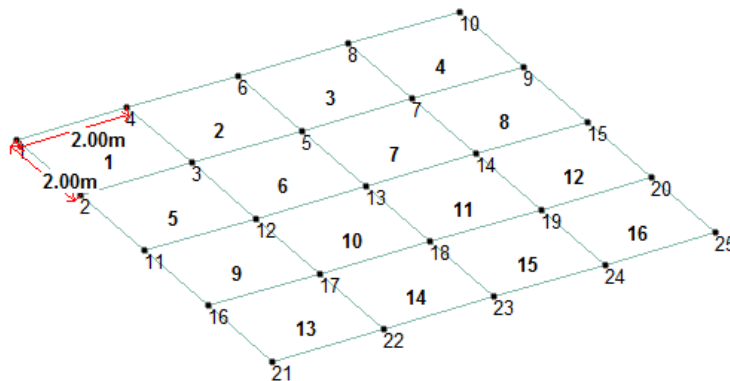

Figure 2-32 The roof slab
In this example, you will create plate elements using the Snap Node/Plate method. Figure 2-32 shows the structure to be created in this example.
Step 11: Repeat the previous steps and create plates 2 to 16, refer to Figure 2-32.